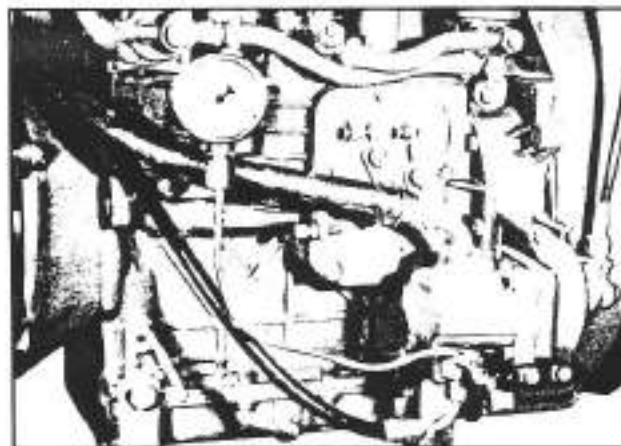

Fig. 3-70. Installation of the manometer on the hydraulic pump outlet
- Install, on the outlet fitting of the hydraulic pump, a manometer with a scale of at least 250 Atm. (See figure 3-70).
The flange of the hydraulic pump can be located in a different position, on the engine body, than that indicated in figure 3-70. The position may vary according to the engine installed in the tractor.